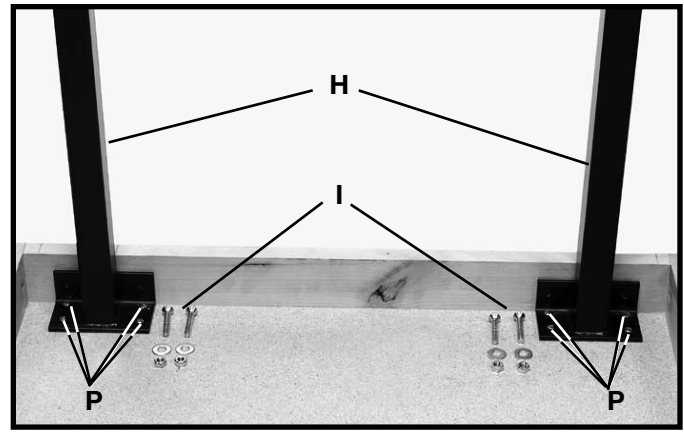

Fig. 83
8. Position the two legs (H) Fig. 83. Assemble the four 1/4-20 x 1-1/2" leg mounting screws, washers, and hex nuts (I) into holes drilled in step 7 and tighten. Mark the eight holes (P) to attach the legs to the table top. Remove the screws and two legs (H). Using a 1/16" drill bit, drill the eight holes 1/2" deep.